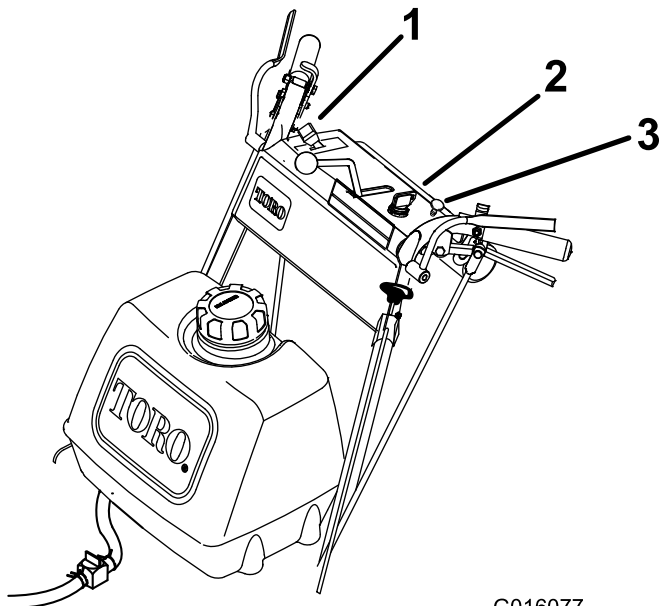

Figure 9
11. Push the choke to off as the engine warms up (Figure 9).
2. Move the throttle lever to slow (Figure 9).